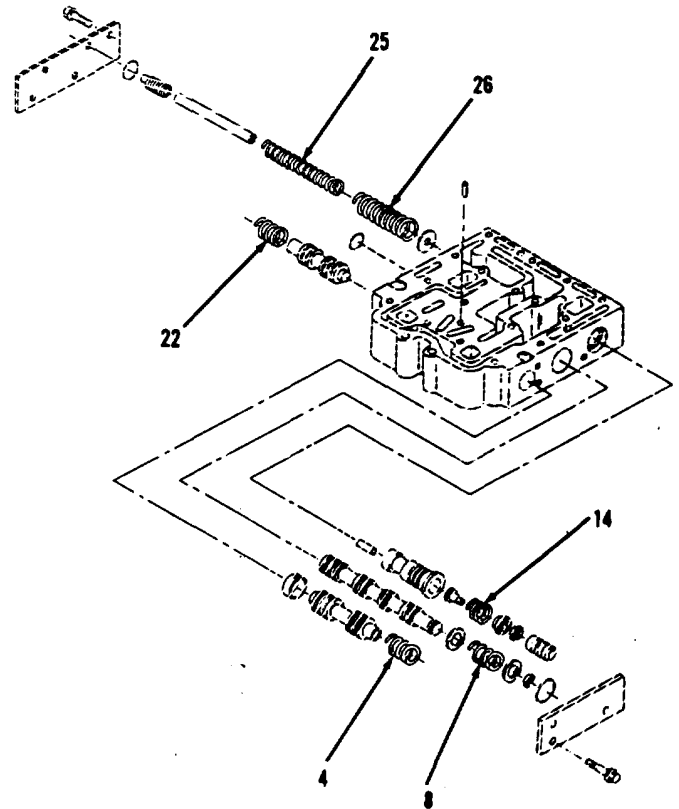

Figure 14-109.
1. Apply compression load of 9.15 to 10.75 lb. to springs (4, 8 and 22, Figure 14-109).
4. Apply compression load of 0.476 to 0.558 lb. to spring (14).
5. Measure spring (14). Length should be 0.48 inch.
6. Measure spring (14) free length. Length should be 0.89 inch.
7. Apply compression load of 10.49 to 11.59 lb. to spring (25).
8. Measure spring (25). Length should be 4.06 inches.
9. Measure spring (25) free length. Length should be 4.32 to 4.56 inches.
10. Apply compression load of 10.37 to 11.47 lb. to spring (26).
11. Measure spring (26). Length should be 2.98 inches.